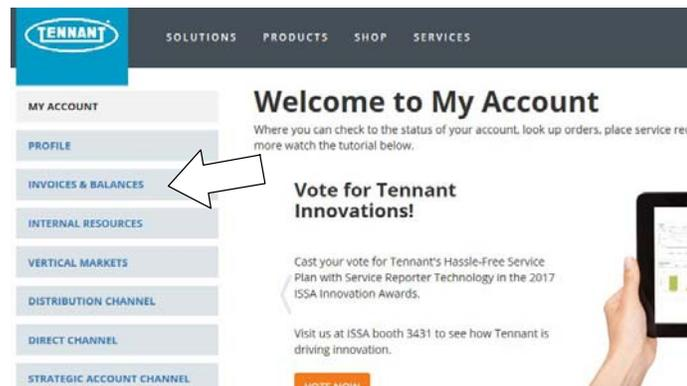

Fig. 22
2. Once logged in to the “My Account” website, click on the “INTERNAL RESOURCES” link as shown below (Figure 22).